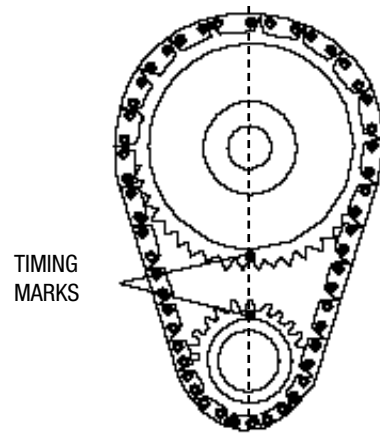

Figure 1—Timing Chain Sprocket Alignment
16. Remove fuel pump and fuel pump push rod. Rotate engine until timing marks are aligned as in Figure 1.
4. Install camshaft with timing marks lined up as recommended by factory specifications. See Figure 1.
PUSHROD AND ROCKER ARM INSTALLATION—After the cam is installed and timed correctly (see Figure 1), install push rods, lifters and rocker arms.